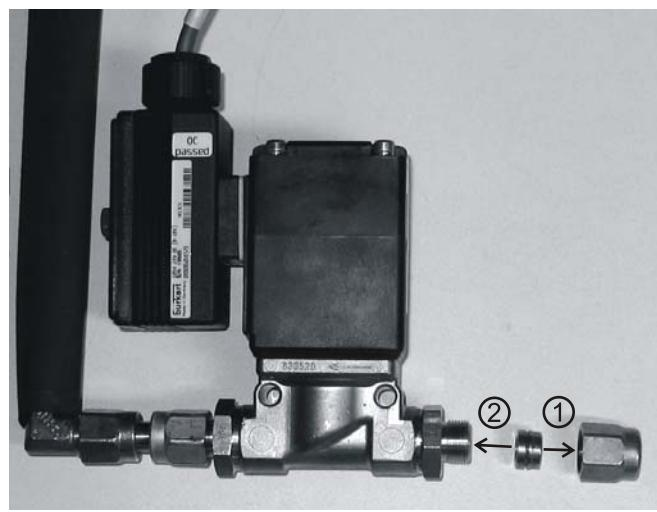

Figure 111: Attaching the ferrule and compression nut
9. Insert the brass ferrule into the compression nut and screw by hand onto the bulkhead end of the water inlet line (see Figure 111).